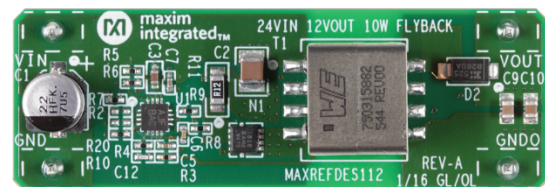

Figure 5. MAXREFDES112# Flyback Power Supply
**MAXREFDES112#** 10W, 24V input, 12V output, 0.8A flyback reference design board (2cm x 6cm), which uses the **MAX17596**, peak-current-mode PWM controller, is shown in Figure 5.